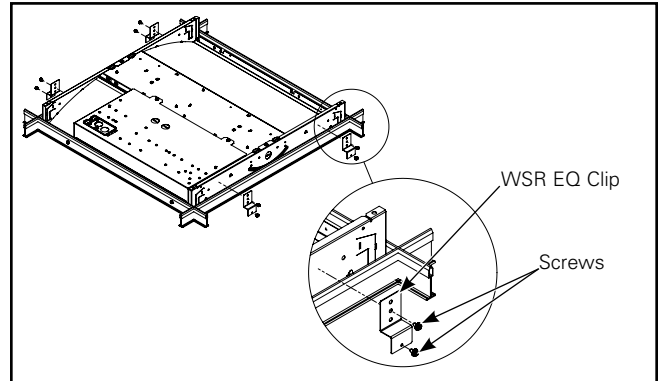
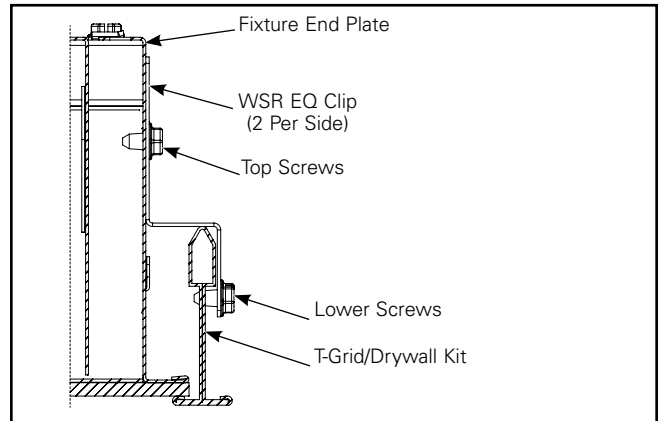
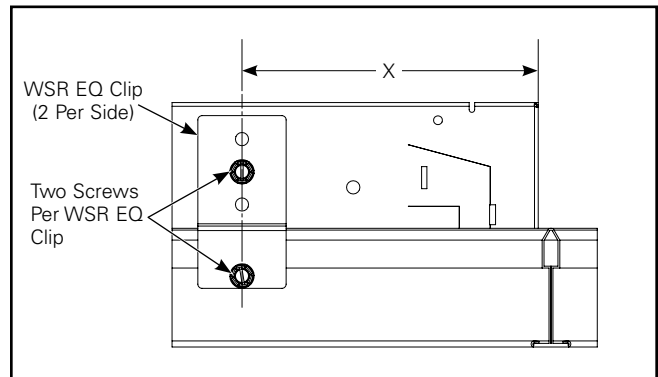

Figure 3.
Figure 4.
Figure 5.
4. Two WSR EQ clips should be installed on each of the tall ends of the fixture as shown (Figure 3). Make sure the clip edge is properly oriented with the three consecutive holes at the top (Figures 4 & 5). Then, drill the top screw (Figure 4) through the appropriate hole in the WSR EQ clip and into the fixture wall, but DO NOT puncture the fixture cavity. Next, drill the base screw (Figure 4) into the single hole at the base of the WSR EQ clip and into the T-grid. Then, screw through the appropriate circular hole "of the WSR EQ clip" to fix the fixture and T-grid do not have pre-drilled holes for WSR EQ clip and they must secure approximately "X" number of inches from the edges (Table in Figure 5). You want to be able to see the end of the screw from the top of the fixture. Complete these steps on all 4